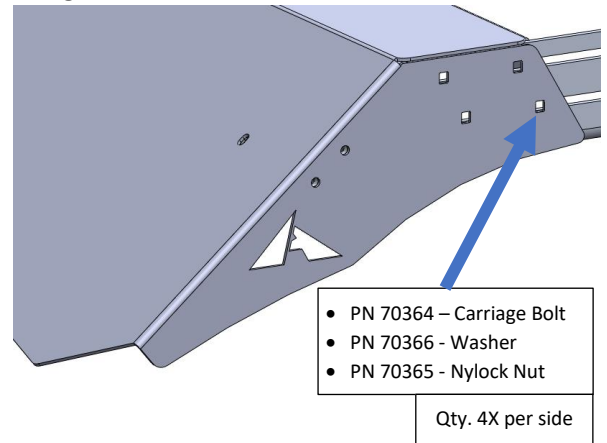

Figure 13: Air Dam Subassembly Installation
- Install air dam subassembly onto roof rack using appropriate carriage bolts and hardware shown in Figure 13.